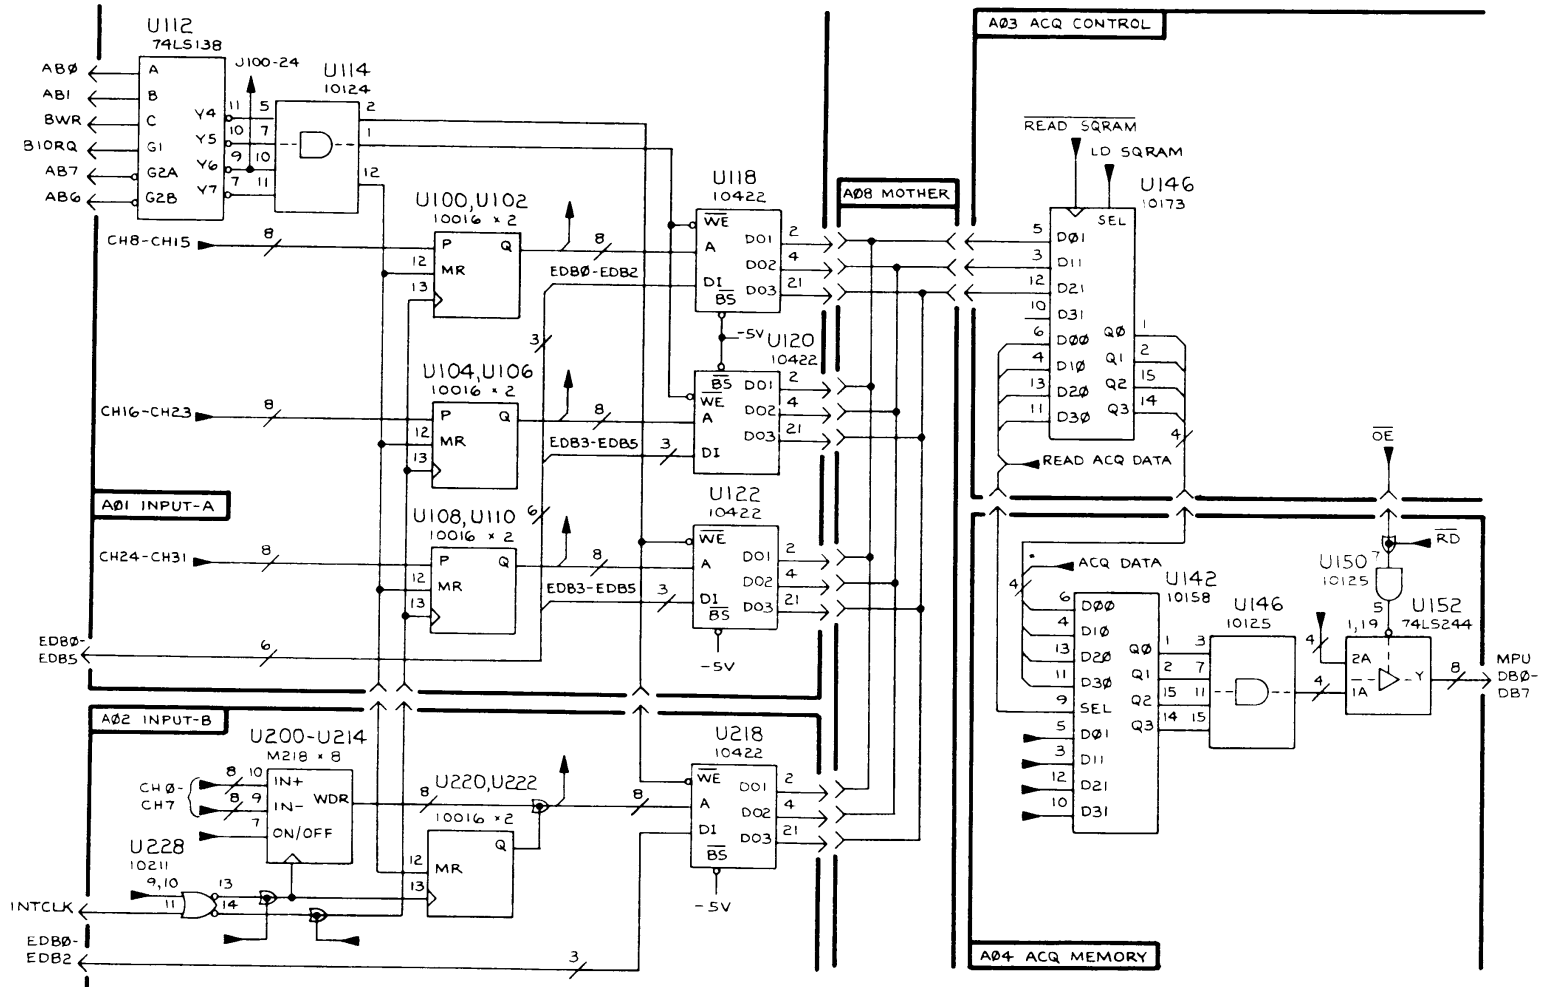

Figure 7-39. 338 Word recognizer test.
**Description:** Refer to Figure 7-39. On the A01 INPUT-A board, data from channels 8 through 31 are latched by U100 through U1 10 (4-bit binary conter, F10016), and are then supplied to the word recognizers (WR) U118, U120 and U122 (256 word X 4-bit RAM, HM10422) eight channels at a time for trigger detection. U100 through U110 are used as both latches to acquire data, and as WR counters to set up the WRs.